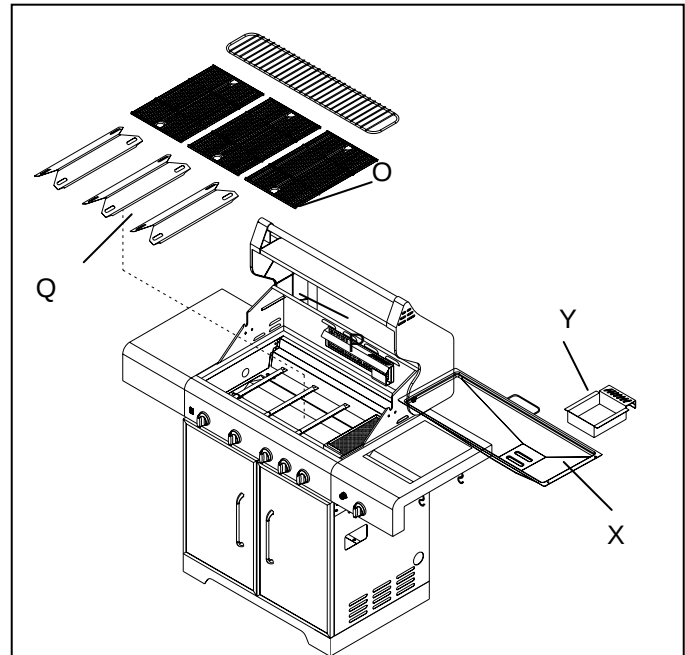

Fig. 25
Hang the two trash clips (R) to the right side burner shelf edge (A) as shown in Fig. 25.